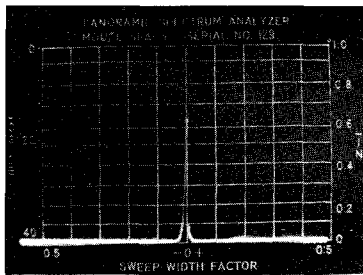

Figure III-2. Zero-Frequency Pip.
c. Set the CENTER FREQUENCY dial to 0 and adjust A BAL and/or S BAL so that the zero-frequency pip (see Figure III-2) is visible. With the Model SPA-3/25, be sure that the Center Frequency VERNier is set for LO Band. This is done by turning the control to the extreme counterclockwise position until the switch is actuated. Adjust the Center Frequency VERNier control (concentric with the CENTER FREQUENCY control) so that the zero-frequency pip is at the center of the screen. Then adjust A BAL and S BAL to minimize the zero-frequency pip.